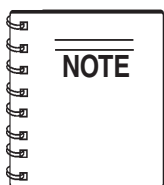

Figure 19. Emergency Stop Switch
1. Locate the Emergency Stop Switch (Figure 19) on the Hydraulic Pump Control Box. Use this switch in the event of an emergency.